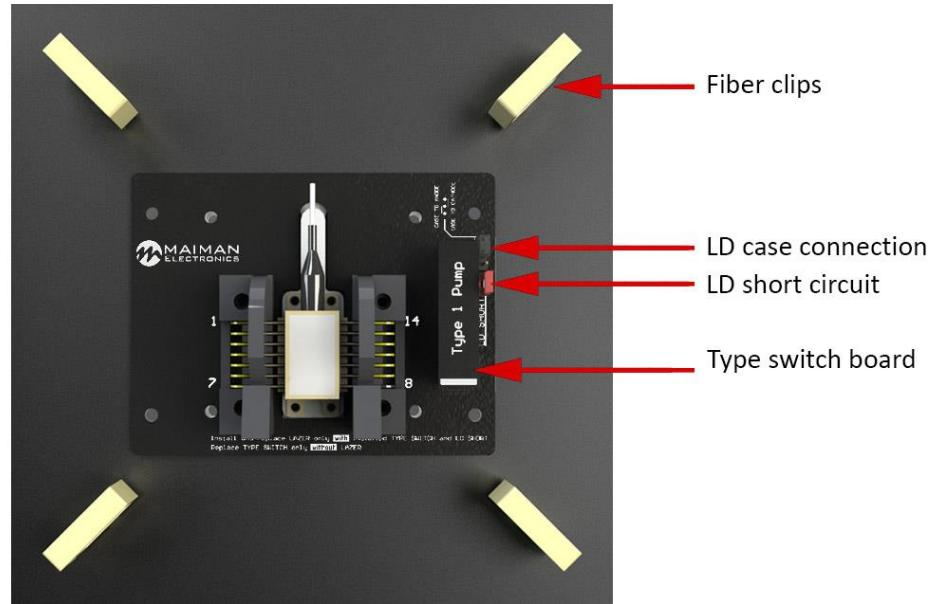

Fig. 7 – LD seat for type 1 Butterfly 14-pin
2. Determine the required pinout type in accordance with the description on the LD. Install the pin change board in the LD seat (Fig. 7). Please note that the position of the pin change board key (white stripe) must correspond to the position of the LD seat key;
7. You can connect LD case to anode or cathode using the appropriate connector (Fig.7). Remove jumper if you want to leave the case floating.